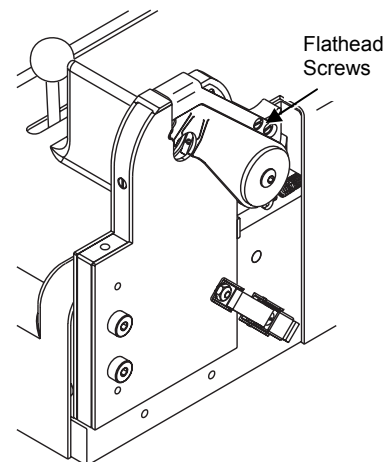

Figure 62 *Replacing the Arc Shield*
1. Remove the four flathead screws securing the arc shield to the movable clamp. See Figure 62.